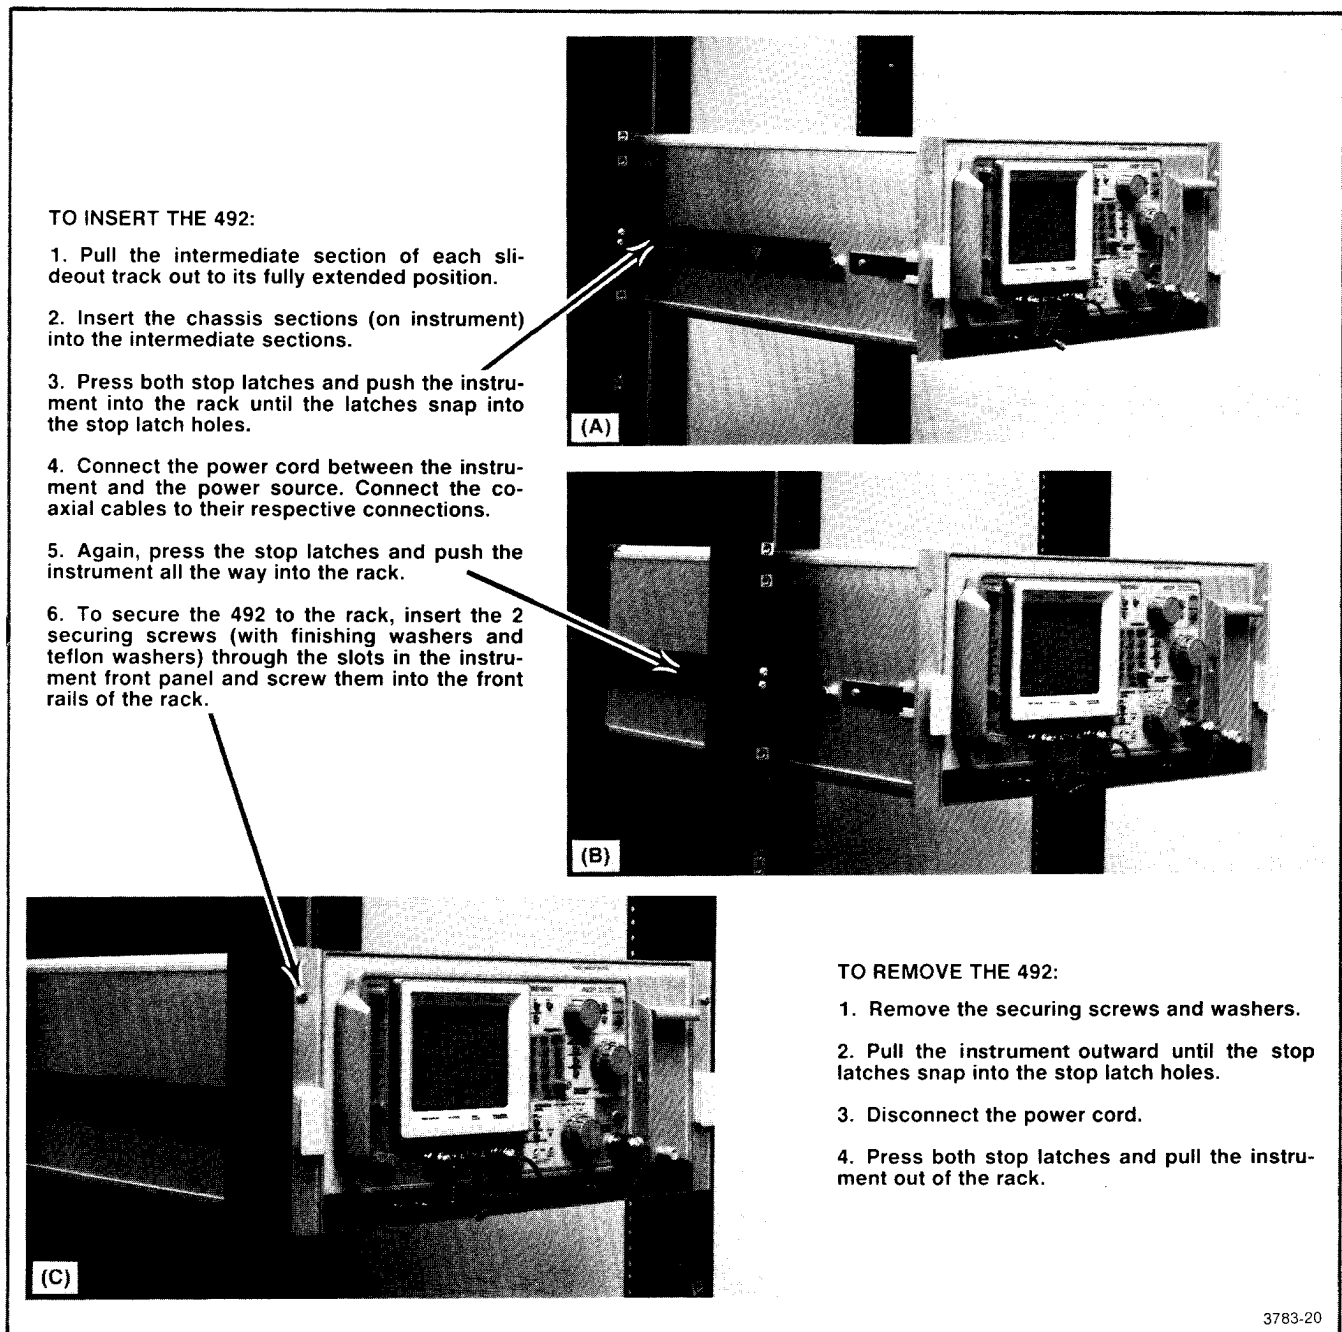

Fig. 6-6. Procedure for inserting or removing the instrument.
- 4) refer to Fig. 6-6 to insert the instrument into the rack. Do not connect the power cord or install the securing screws until all adjustments have been made;
After the initial installation and adjustment of the slide-out tracks, the 492/492P is removed or installed by following the directions in Fig. 6-6 and the following procedure: